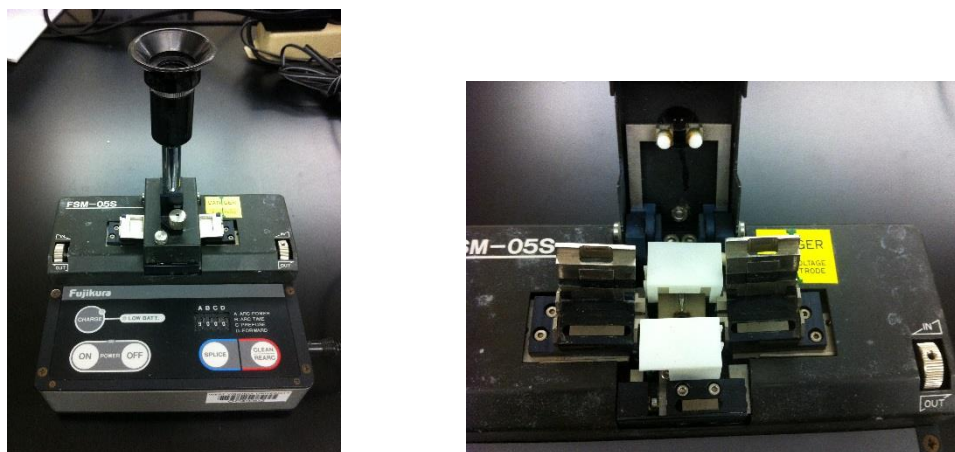

Figure 2. Fujikura FSM-05S fusion splicer
- 3) Scrap the coating of detection window with the Fujikura FSM-05S fusion splicer (Figure 2 Left): lift the microscope and two clamps (Figure 2 Right), level the capillary into the capillary trap and make sure the detection window mark is in the middle, then close the two clamps and the microscope. Watch through the microscope when pressing the SPLICE button: the polyimide coating of the capillary glows red and chars (about 1 sec). The detection window should be approximately 1.5-2mm wide. Larger detection windows will actually have adverse effect on detection.
**Caution!!!** Always right click on the cassette image in the software (Figure 2) and choose Change Cassette to relieve the two default inlet and outlet vial and access an already installed cassette, to avoid contaminations.